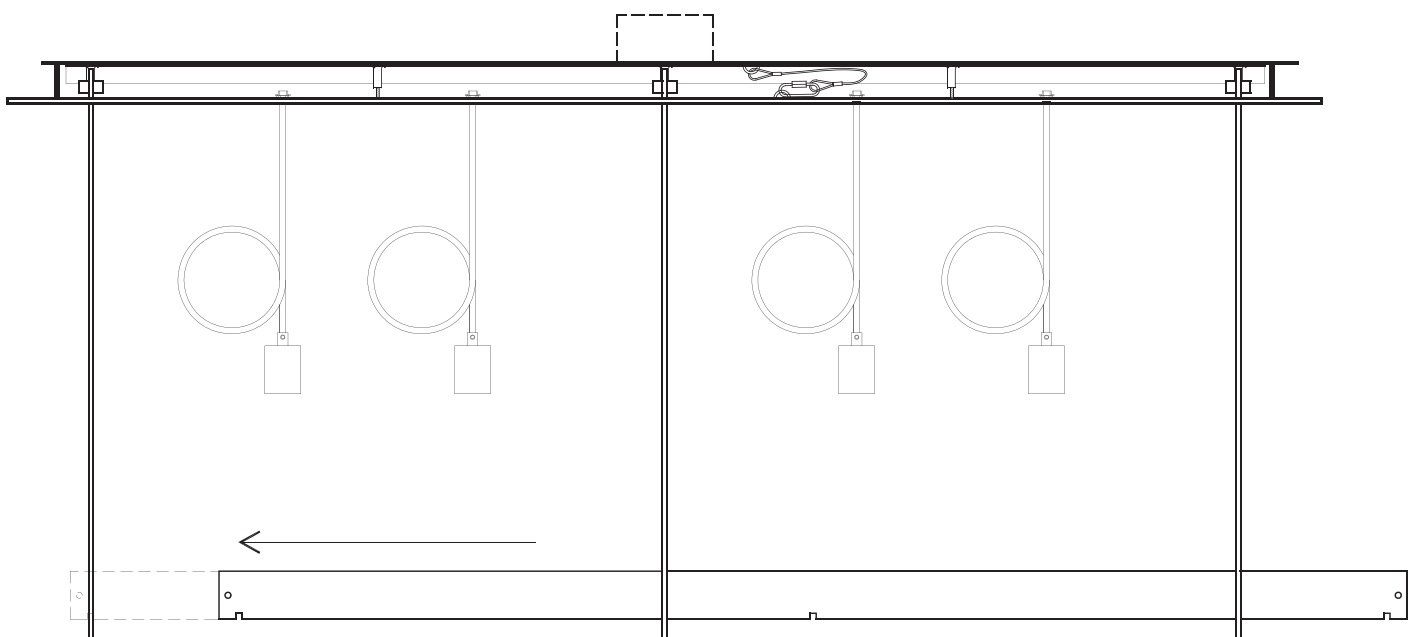

Figure 6. Insert Bottom Support Bar
- 12 Carefully pass the bottom support bar (oriented with the notched side facing down) through the slots at the bottom of each of the vertical supports and align the vertical supports with the notches (Figure 6). Take care not to damage the finish on the steel parts during this process.